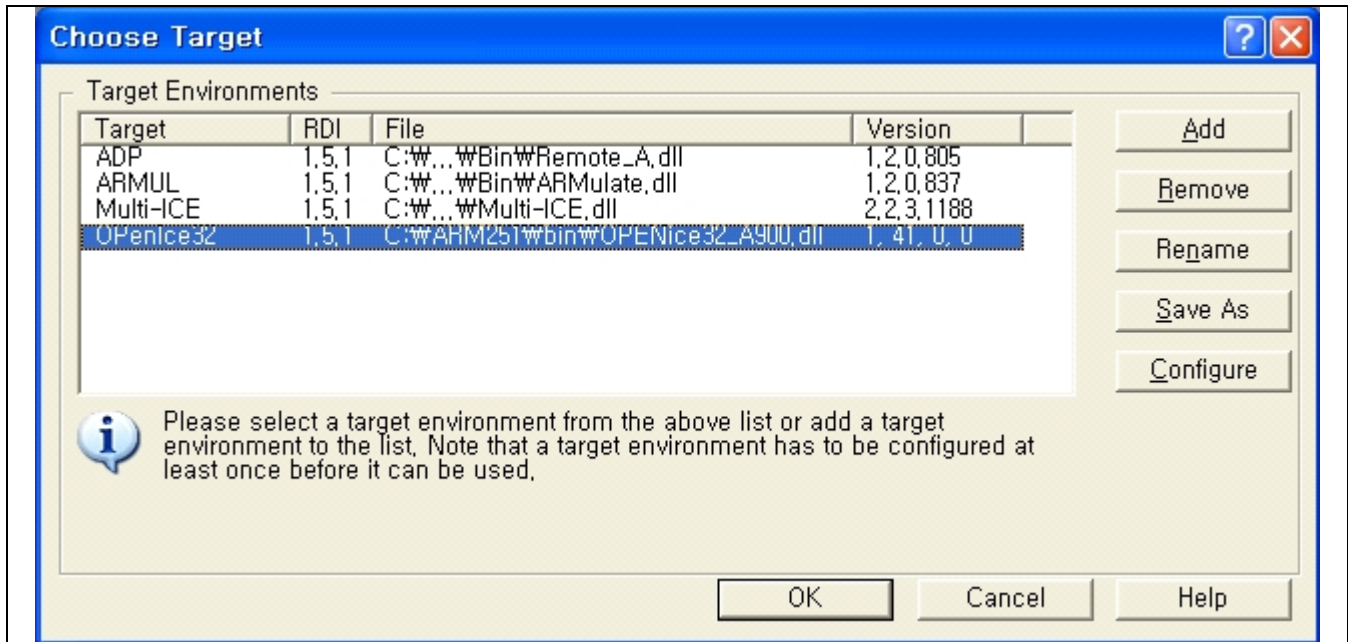

Figure 2-19. Debugger Configuration: Choose Target
5. If you click the OK button on Choose Target dialog box (See Figure 2-19), the debugger will be restarted. The restarting dialog box is displayed and numbers are rapidly changing, indicating that it is reading and writing to the target. This means that the executable image file is downloaded to the SDRAM code area.